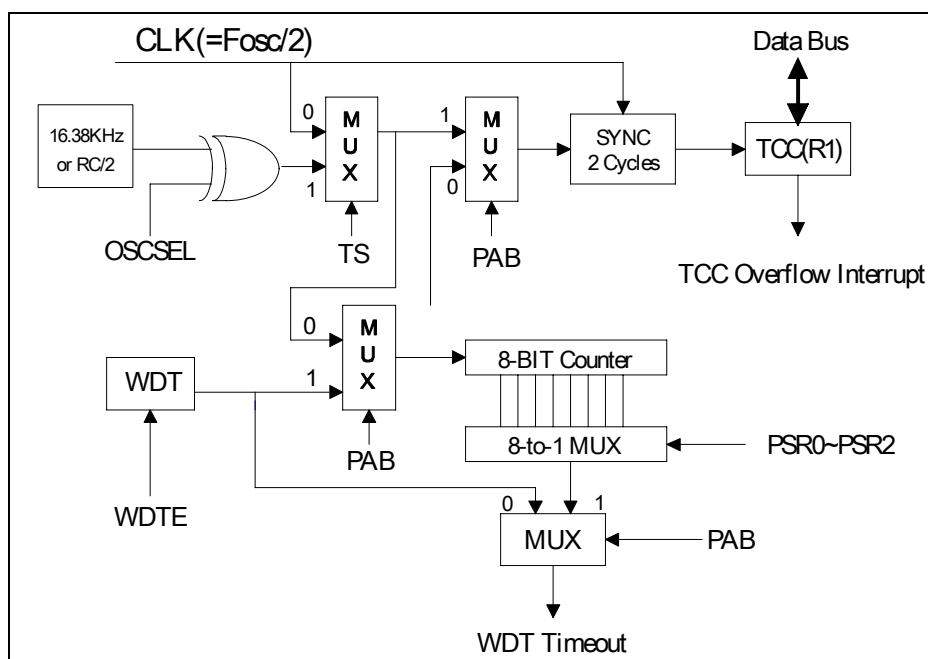

Fig. 6-7 TCC WDT Block Diagram
- The TCC/WDT circuit diagram is shown in Fig. 6-7 below.